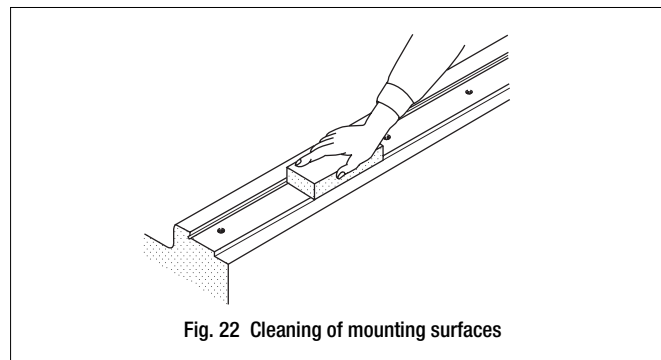

Fig. 22 Cleaning of mounting surfaces
- Remove burrs and blemishes from the reference mounting surfaces and mounting surfaces of the machine using an oil-stone, etc. and then wipe the surfaces with clean cloth. (See Fig. 22.)